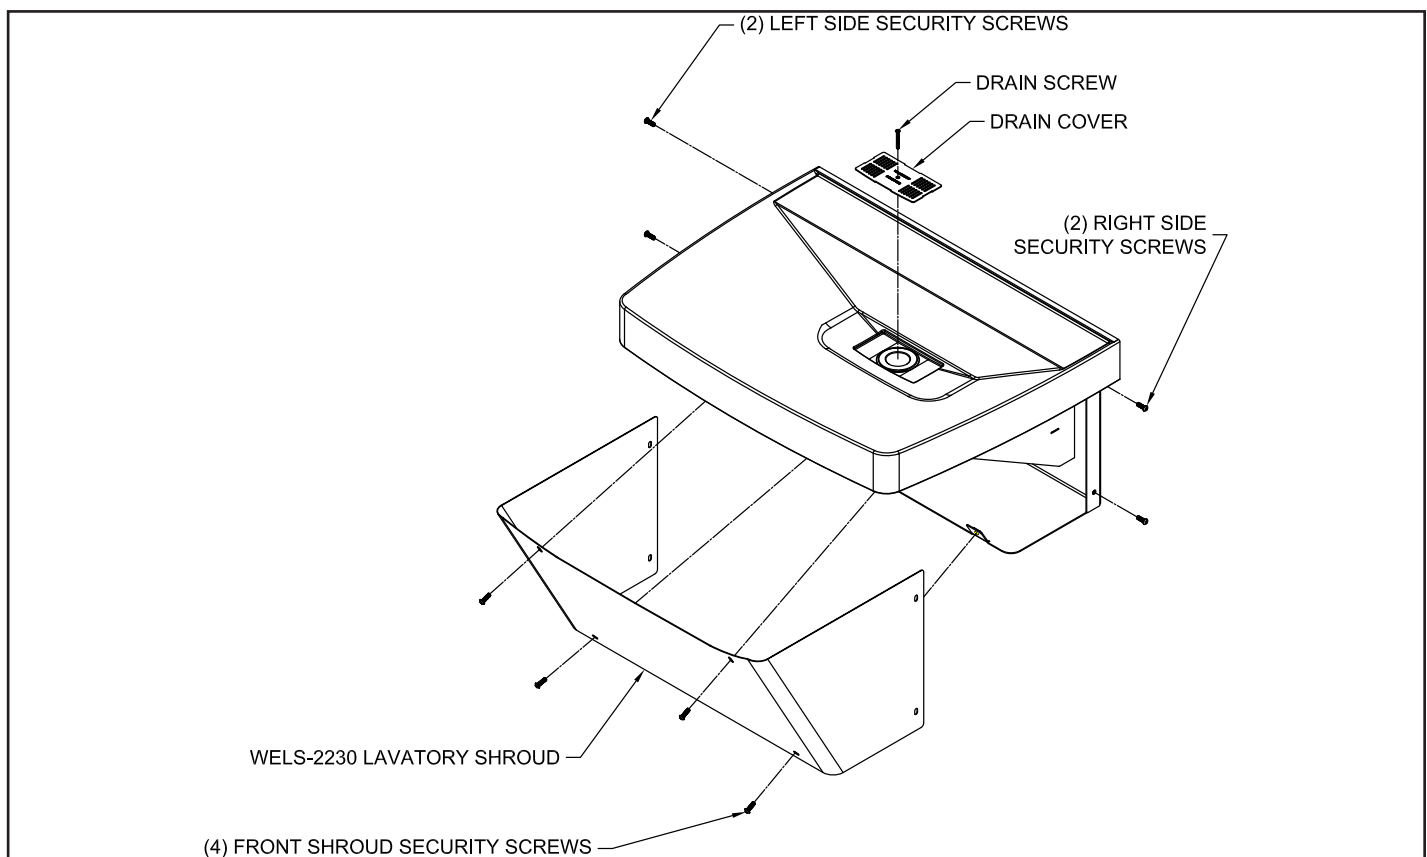

FIG. 3- MOUNT DRAIN COVER AND REPLACE SHROUD
1. Install the Drain Cover into the Lavatory trench drain using the included Drain Screw (**SEE FIG. 3**).
3. Once all plumbing has been completed and adequately tested, replace the Lavatory Shroud using the Security Screws removed in Step 1 (**SEE FIG. 3**). For best fit, finger-tighten the Side Screws before finger-tightening the Front Screws; once Front Screws are in place, fully-tighten the Sides.